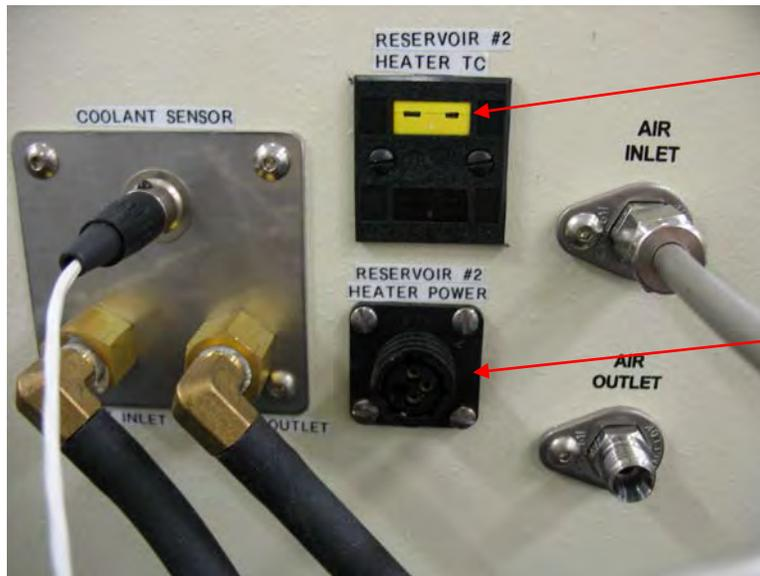

Figure H17 – 2nd reservoir heater jacket power cable & thermocouple connectors
9. Connect reservoir #2's heater jacket power cable to the power connector on the back of the machine and the heater jacket thermocouple to its associated connector on the back of the machine (figure H17).